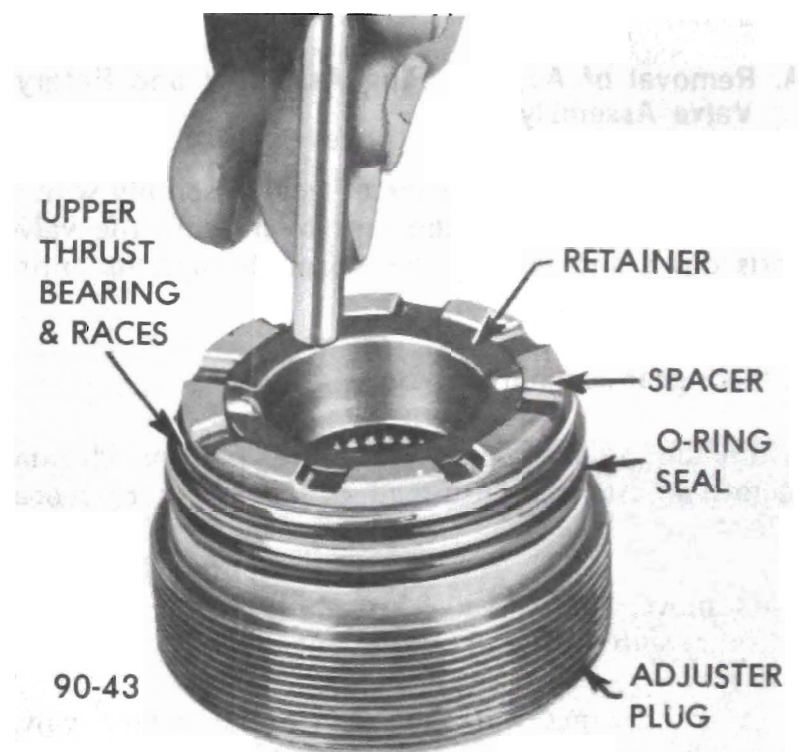

Figure 90-43 Installing Upper Thrust Bearing Retainer
3. Lubricate new adjuster plug "O" ring seal with petroleum jelly and install on adjuster plug. Assemble large O.D. thrust bearing race with internal flange up on adjuster plug, then thrust bearing, smaller thrust bearing race and thrust bearing spacer on adjuster plug. Install new thrust bearing retainer into needle bearing bore using punch, being careful not to damage spacer. See Figure 90-43. Radial location of dimples on retainer is not important. Thrust bearing assembly and spacer must be free to rotate and retainer must be completely bezowsurface of spacer.